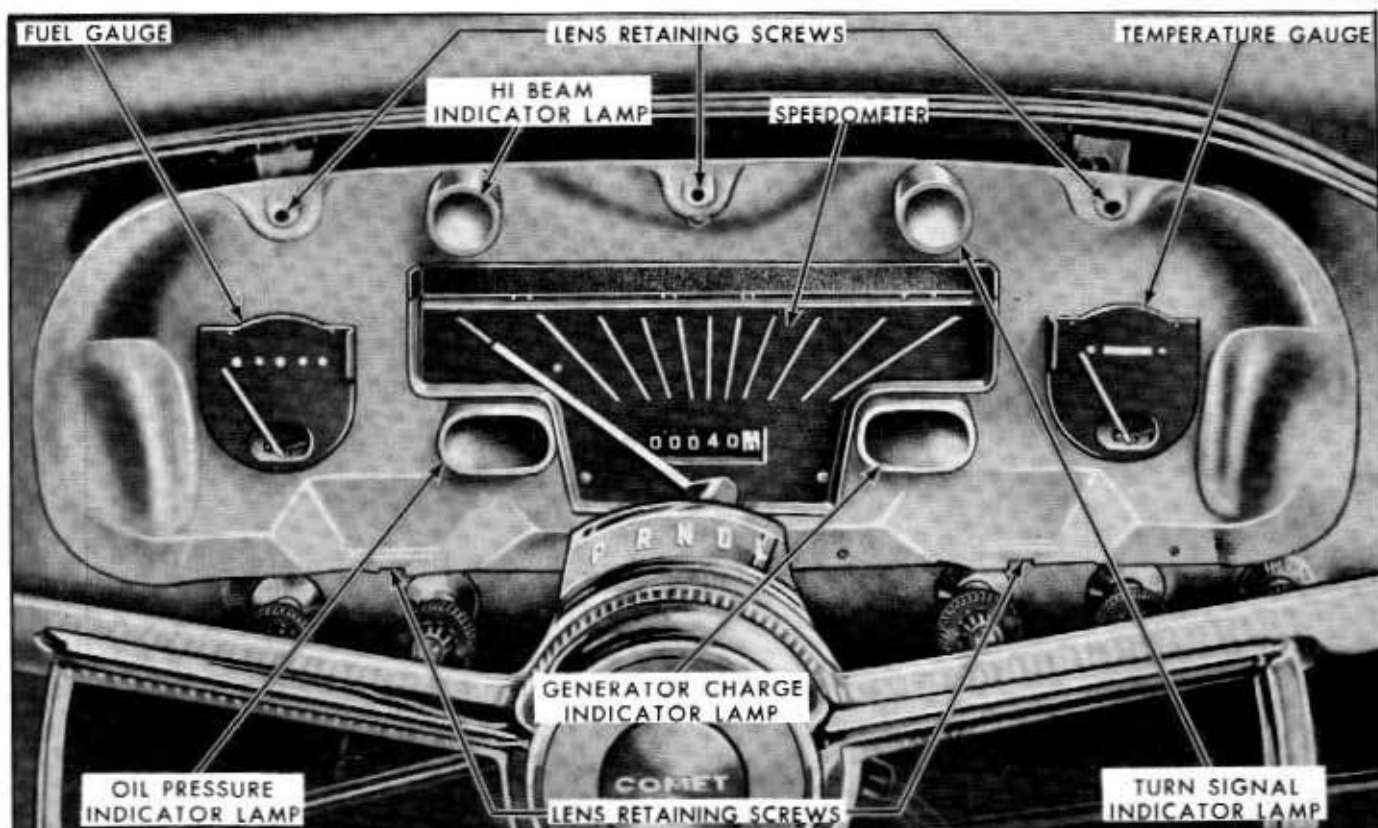
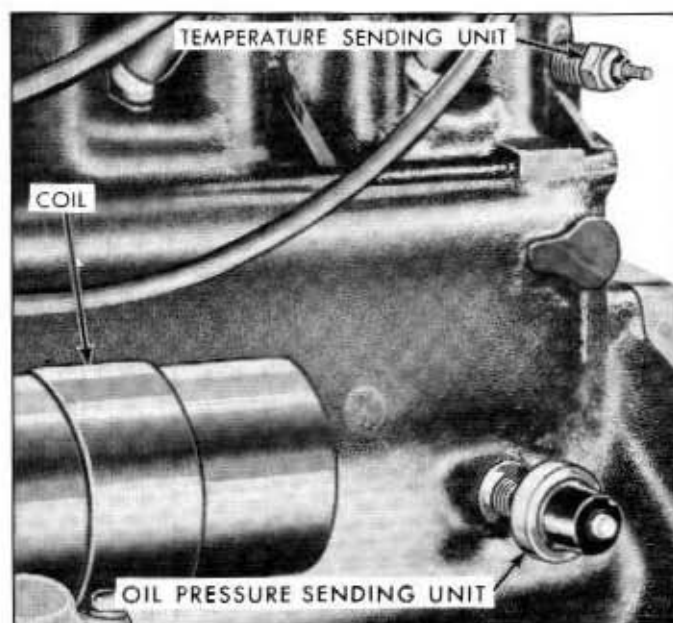

Fig. 10-12—Instrument Cluster—(60C-7639)
Fig. 10-13—Oil Pressure Switch and Temperature Sending Unit—(60C-7640)
2. Remove the instrument cluster bezel retaining screws and lift the bezel, lens, and cluster mask plate from the cluster housing. See figure 10-12.
cluster mask from the instrument cluster housing. See figure 10-12.
The temperature gauge system consists of a sending unit mounted in the cylinder head, (figures 10-13 and 14) and a remote register unit, (temperature gauge) mounted on the instrument panel. See figure 10-12. The principle of operation is similar to the fuel gauge except that the resistance of the sending unit is varied by engine temperature. The temperature gauge circuit is shown at the end of this section.
1. Disconnect the negative (ground) battery cable. Remove the instrument cluster bezel, lens, and cluster mask from the instrument panel. See figure 10-12.
To test the oil pressure switch on the engine (figure 10-13), turn the ignition switch on, engine not running, the indicator light should come on. If the indicator light does not come on, short the terminal of the oil pressure switch unit to ground. If the light now comes on, the oil pressure switch is defective. If the light still does not come on, the bulb is burned out or the wires from the bulb to the ignition switch and oil pressure switch are defective.
1. Disconnect the oil pressure sending unit wire at the unit. See figure 10-13.